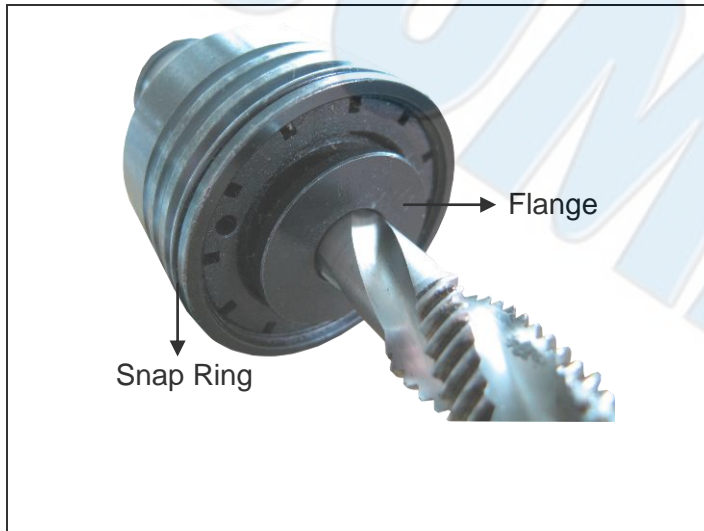

Figure 8-4
- (1) Slide tap into tap holder until tap locks in place. Tap can be removed by simultaneously depressing flange and pulling out tap (see Figure 8-4).
- (1) Remove the spring clip from the groove of the tap holder (see Figure 8-4).